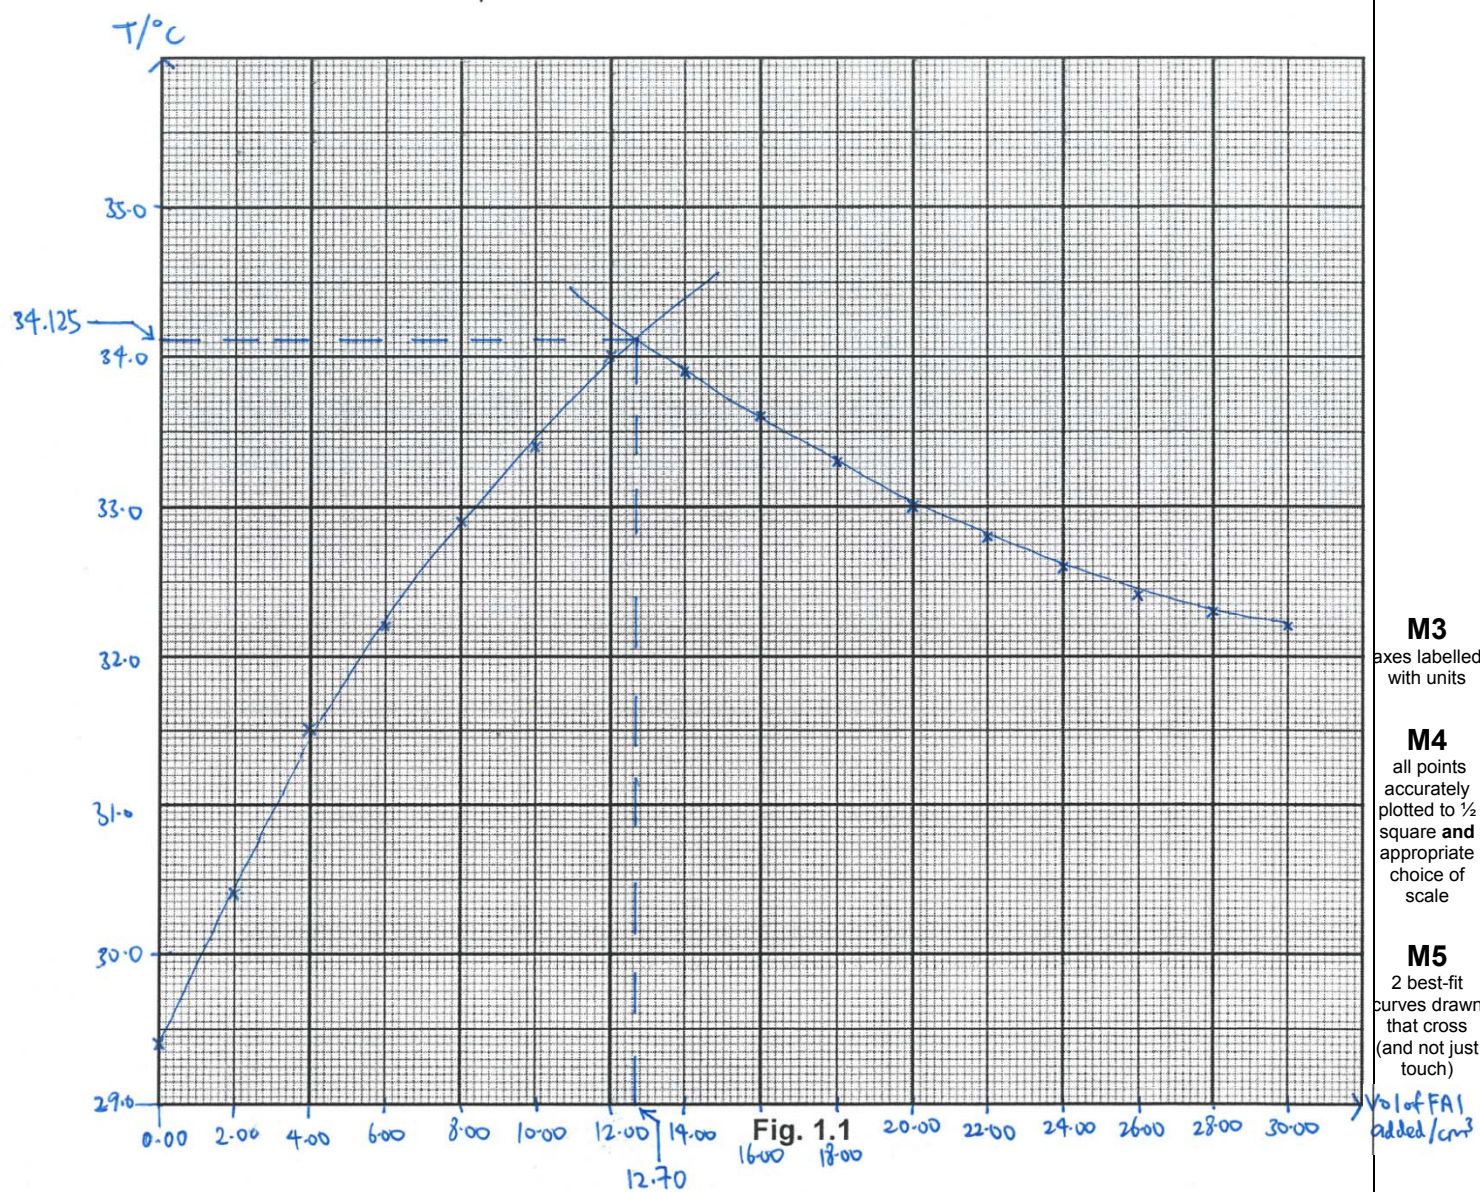

Fig. 1.1
- (i) Plot a graph of temperature, T , on the y -axis, against volume of **FA 1** added, on the x -axis on the grid in **Fig. 1.1**.
Draw **two** most appropriate best-fit lines in **Fig. 1.1**, taking into account all of your plotted points.
(ii) From your graph in **Fig. 1.1**, determine:
- (vi) From your graph in **Fig. 1.1**, explain the shape of your best-fit line **before** equivalence point.